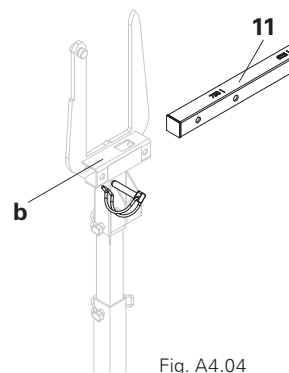

Fig. A4.04
3. Insert the measuring rod (11) into the holder (b). When inserting, make sure that the measurements are visible at the top. Adjust the Distance Device to ensure the corresponding cross beam spacing. (Fig. A4.04)